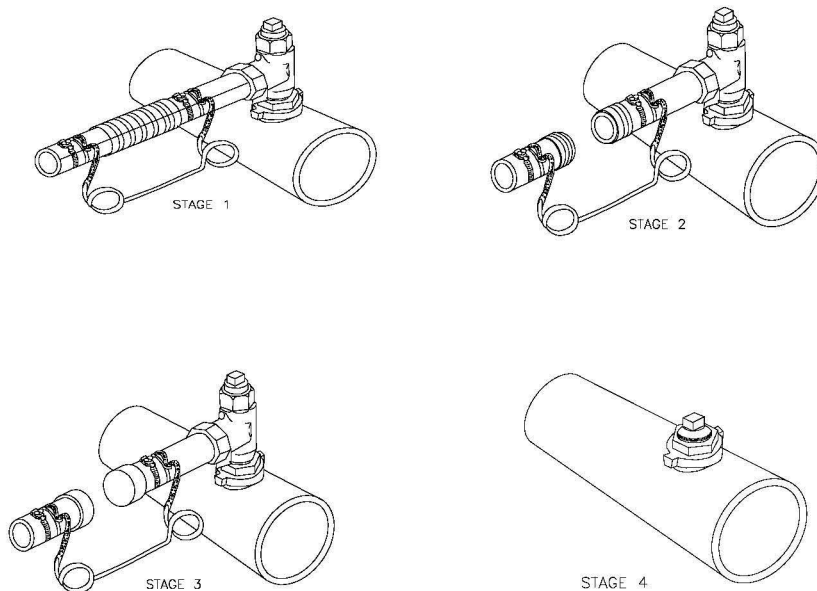

Figure A36 - Cut off Metallic Service with top tee assembly
7. If a MP service is encountered with a Top Tee assembly as shown in Figure A36, work should proceed with caution as the integral plug may have been removed. In this situation the Operational Manager should be contacted to initiate the reduction in pressure of the main.
- ii. A temporary continuity bond shall be fitted to bridge across the section of pipe to be removed as per Figure A36, and in accordance with Section A6.2.2.
- iv. The service should be cut through the mastic bandage using a hacksaw in such a manner as to enable the cut piece to be easily removed. The cut should be sealed with mastic as cutting proceeds to minimise the discharge of gas. (Figure A36 Stage 1)
- v. Remove the cut section of pipe, cap downstream (property side) pipe with an approved cap end. (Figure A36 Stage 3).
10. Test the plug with an approved leak detection solution (Figure A36 stage 4).